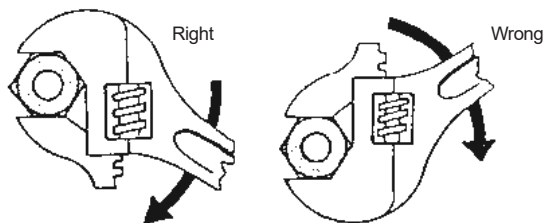

Figure 3
- Face adjustable wrench forward and turn wrench so pressure is against the permanent jaw (Figure 3).